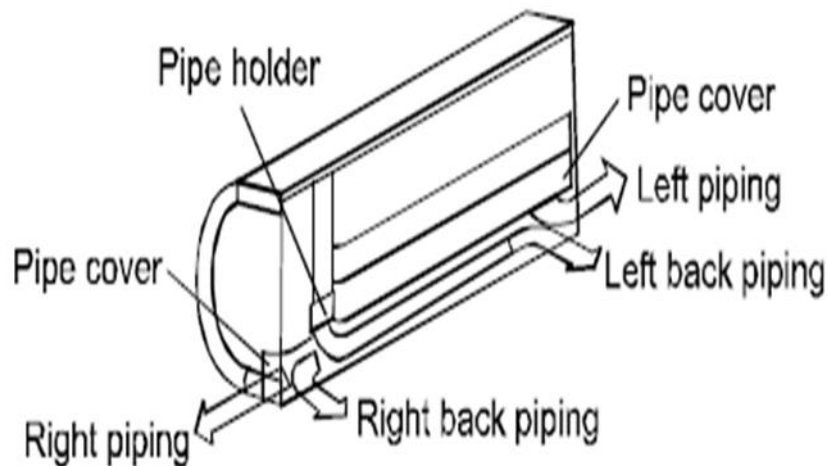

Figure 9
1. Pass the piping through the hole in the wall. See figure 9.